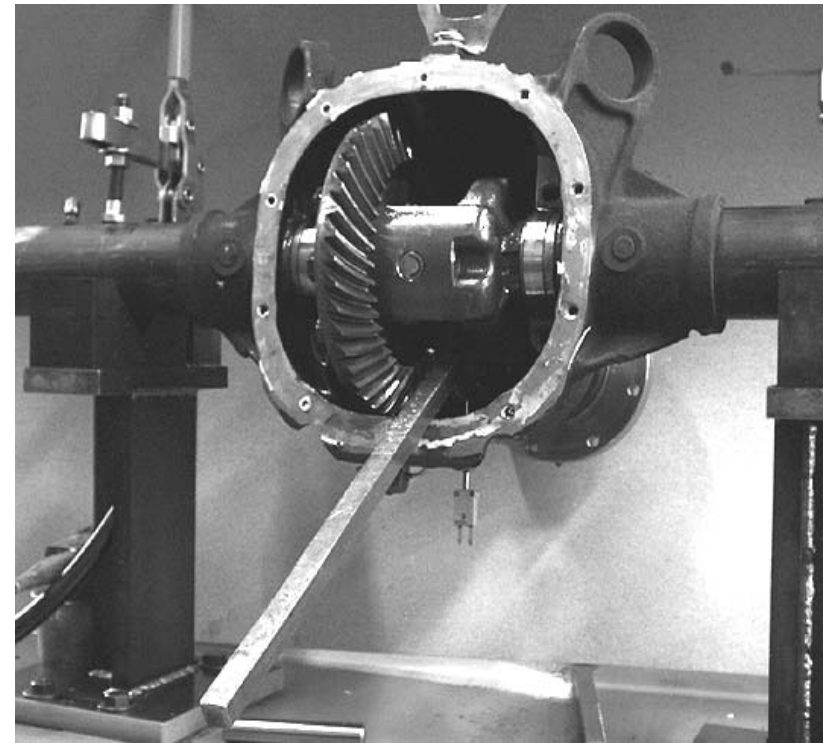

Figure 2
10. Remove differential case. It may be necessary to use a pry bar as shown in Figure 2. Exercise caution when prying on the carrier so that the gasket sealing surface is not damaged. Place shims/adjuster nuts and bearing cups with their respective bearing cap.